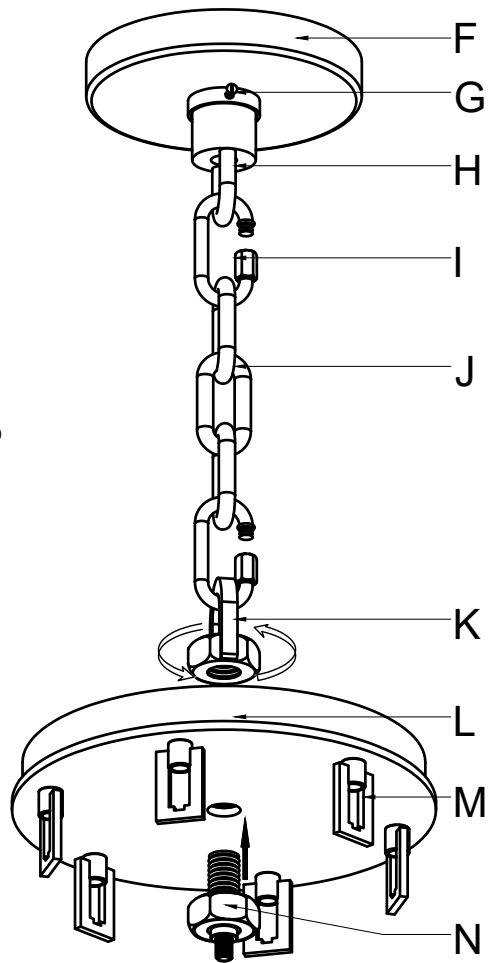

FIGURE 03
4. Attach the Quick link(I) @ the Collar loop(H) with the Chain(J) and thread Top loop(K) onto nut with the Sub-Canopy(L) assembly in between. (see fig. 03)